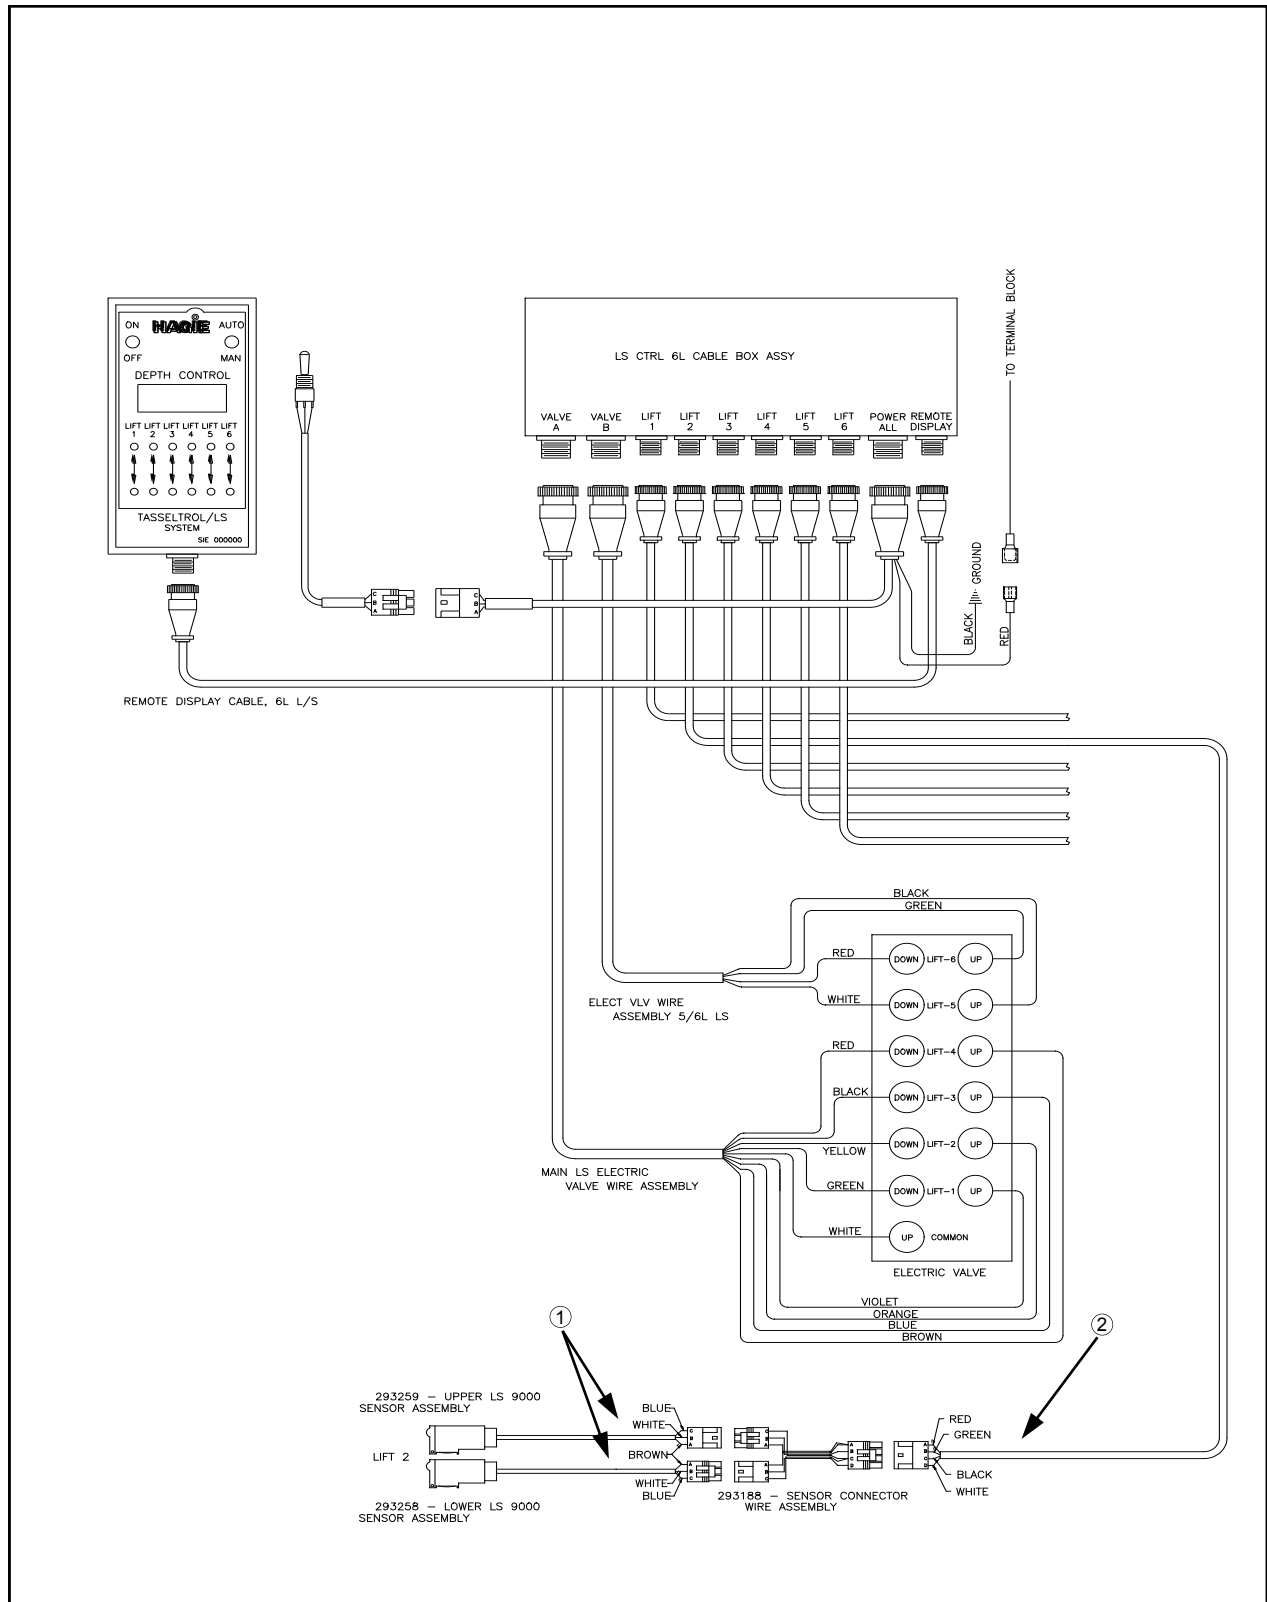

FIG 9.1
No lights at either photo sensor	Faulty connector cable (See page 130, fig. 9.1, item 2) Faulty RED and/or BLACK wire in connector cable (See page 130, fig. 9.1, item 1)
Lights at lower photo sensor	<p>Faulty GREEN wire in connector cable (See page 130, fig. 9.1, item 2)</p> <p>Photo sensor not in line with reflector (See page 37)</p> <p>Faulty BLUE wire in sensor assembly (See page 130, fig. 9.1, item 1)</p>
No lights at lower photo sensor	<p>Faulty RED and/or BLACK wire in connector cable (See page 130, fig. 9.1, item 2)</p>
Lights at upper photo sensor	Faulty WHITE wire in sensor assembly (See page 130, fig. 9.1, item 1)  Faulty BLUE wire in sensor assembly (See page 130, fig. 9.1, item 1)
No lights at upper photo sensor	Faulty RED and/or BLACK wire in connector cable (See page 130, fig. 9.1, item 2)